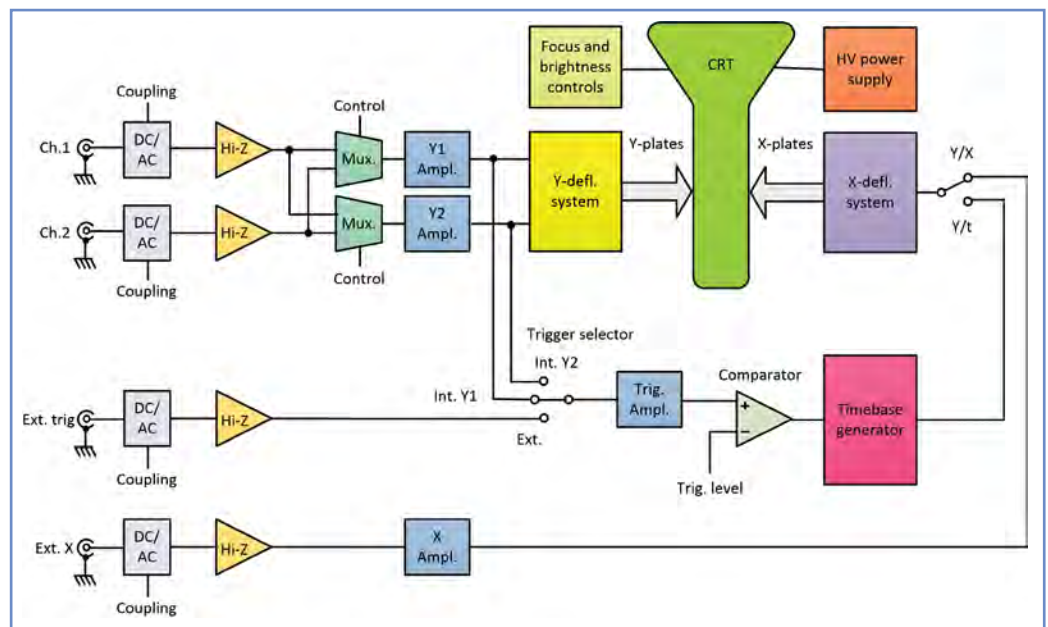

Fig.2.2. Simplified block schematic of an analogue CRT-based oscilloscope
The simplified block schematic of a generic CRT-based analogue scope is shown in Fig.2.2. The cathode-ray tube (CRT) requires a high-voltage supply (usually several kV). Within the CRT a beam of electrons is focussed on the phosphor coating at the rear of the display screen. The beam is deflected in the horizontal (x-axis) and vertical (y-axis) by means of two sets of internal plates (the X- and Y-plates respectively). In normal operation (ie, to display a time-related voltage waveform) the amplified
Normally, an oscilloscope employs DC coupling throughout the vertical deflection system and a shift along the vertical axis will occur whenever a direct voltage is present at the input. When investigating waveforms in a circuit you will often encounter a signal (AC) superimposed on a DC level, which may be removed by inserting a capacitor in series with the signal. With AC coupling selected (see Fig. 2.2) a capacitor is inserted in the input signal path. When DC coupling is selected the capacitor is shorted and any DC level at the input
On most scopes an additional 'Ground' position (not shown in Fig. 2.2) is made available. When this is selected, the vertical input is taken to directly to ground/common (0V) and the oscilloscope input is left floating. This facility is useful in allowing the accurate positioning of the vertical position control along the 0V axis. If the control is then set to DC, the magnitude of any DC level present at the input may be easily measured by examining the shift along the vertical axis. The input coupling stage is followed by a wideband DC-coupled amplifier with high-input impedance. This ensures that signals are faithfully displayed without added distortion due to reduced high-frequency response. The high input impedance helps to avoid loading effects on the circuit under investigation. We will return to this important point when we discuss scope probes later.
the two channels separately you might sometimes find it useful to display the sum or difference of the two waveforms. This is accomplished using the two multiplexers shown in Fig. 2.2.
The chopped-alternate control (not shown in Fig. 2.2) available in dual-